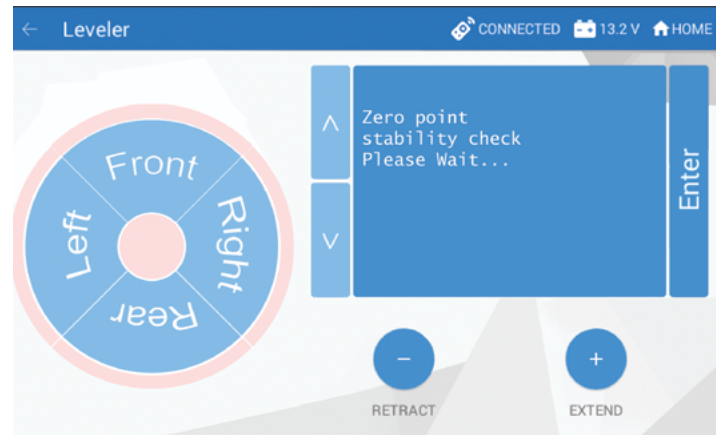
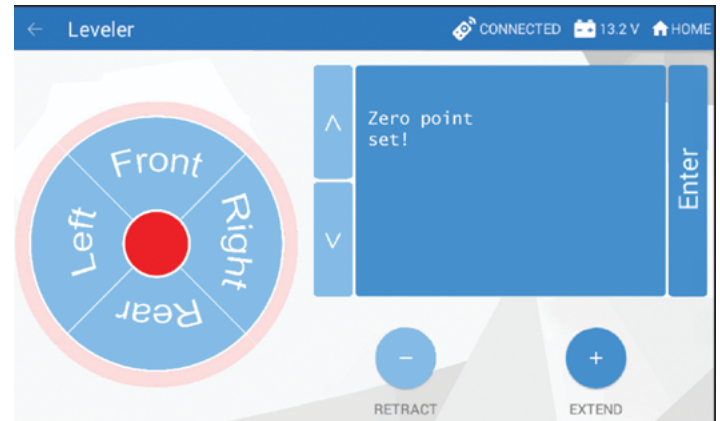

Fig.53
Fig.54
7. Screen will show "Zero Point Stability Check ... Please Wait" (**Fig.53**), followed by "Zero Point Set" (**Fig.54**).